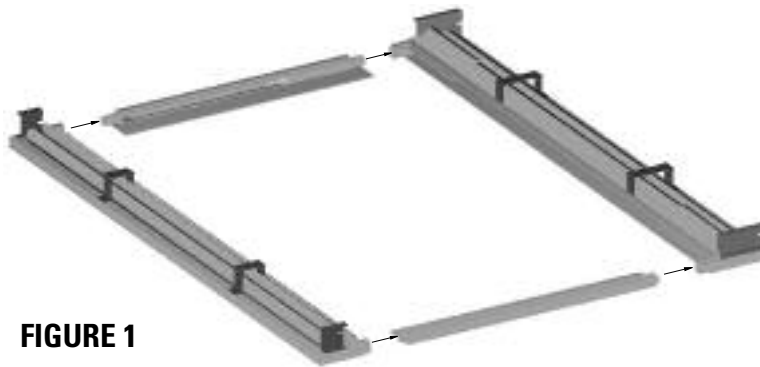

FIGURE 1
1. Connect the four frame pieces by matching the colored tapes on the ends of the frame pieces. See Figure 1.